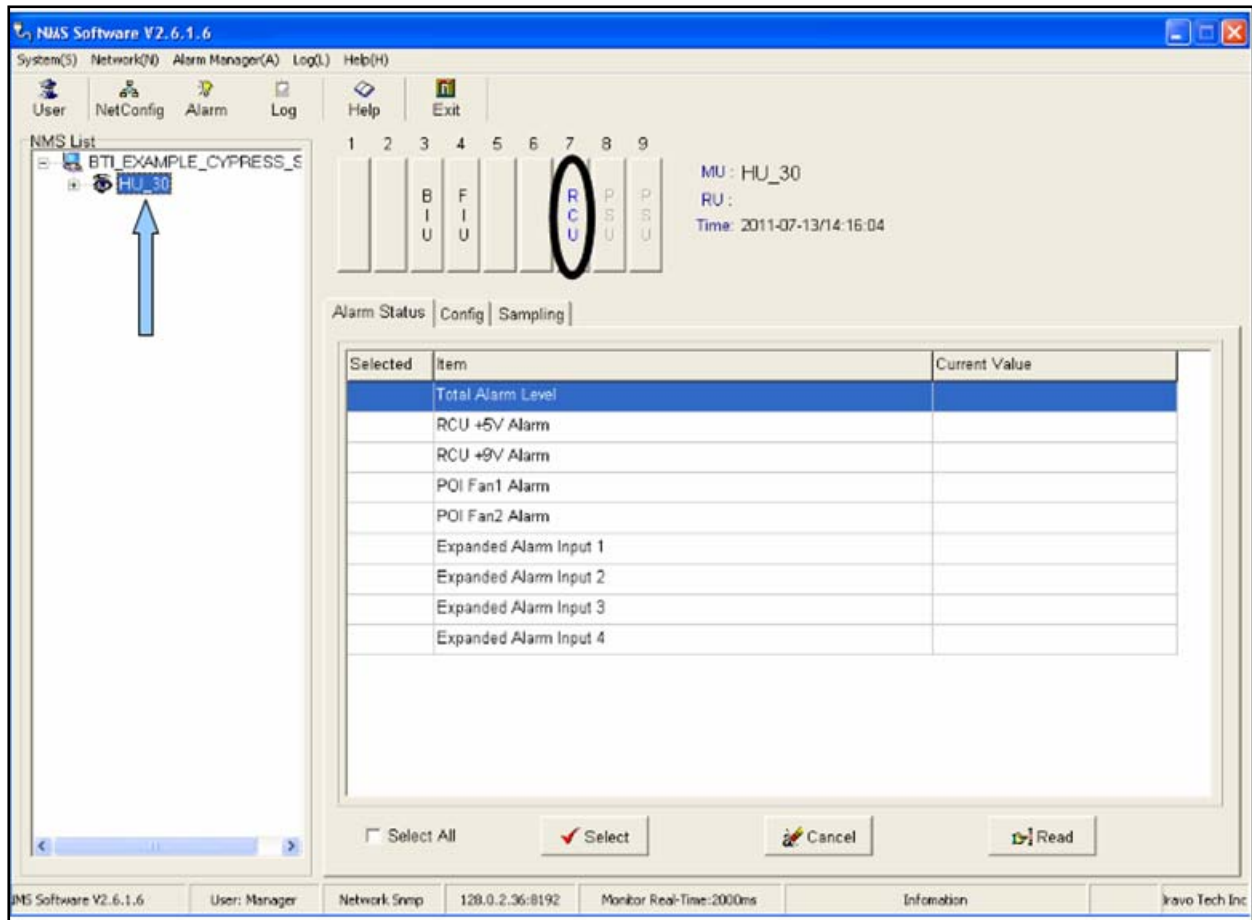

Figure 5-11. Select the HU
2. Select the RCU Module, **Figure 5-11**.